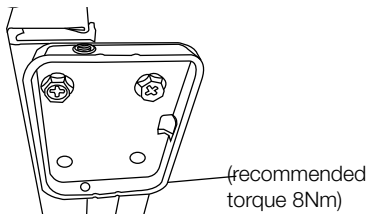

Figure 3
- Remove screw (5) on the compressor base
- Attach replacement foot base to the refrigerator to the two holes at the front of the refrigerator using two of the removed screws (See Figure 3)